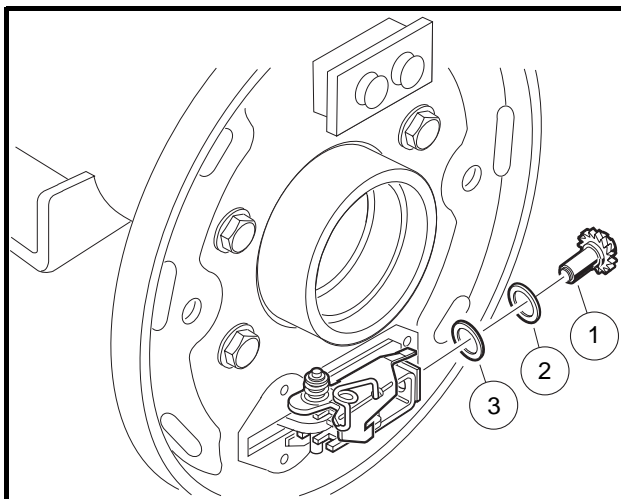

Figure 6-7 Remove Adjuster Wheel
11. Remove adjuster wheel (1) with two washers (2 and 3) from the backing plate (**Figure 6-7, Page 6-4**).
7. Install the adjuster wheel (1) and two washers (2 and 3) into the adjuster assembly (**Figure 6-7, Page 6-4**).